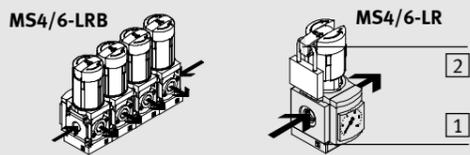

Bild 1/Fig. 1
As designed, the filter control valve MS4/6-LFR and pressure control valve MS4/6-LR(B) control the work pressure set in the following string. The MS4/6-LFR/LR(B) thereby smooths out: fluctuations in pressure. The MS4/6-LRB enables pressure supply on both sides (→ Fig. 1). The filter control valve MS4/6-LFR and filter MS4/6-LF with centrifugal separator remove dirt particles and condensate, the fine/ultrafine filter MS4/6-LFM dirt particles and oil drops, the activated carbon filter MS4/6-LFX gaseous oil components and the water separator MS6-LWS condensate from the compressed air blown through it.